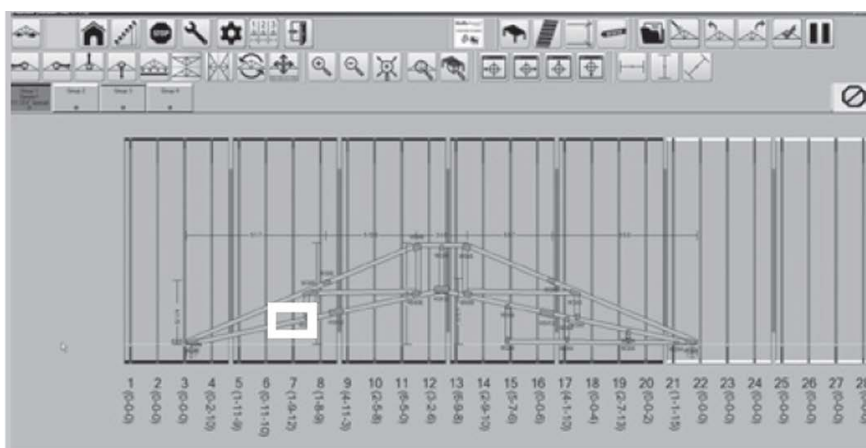

FIGURE 46
5. For example, in Figure 46, the puck number 7 was moved from the top edge of the top chord to the top edge of the bottom chord.